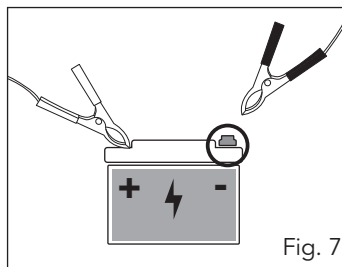

Fig. 7
2. Connect the black negative terminal clamp to the negative ( - ) (7) pole on your vehicle 12V battery (fig. 7).